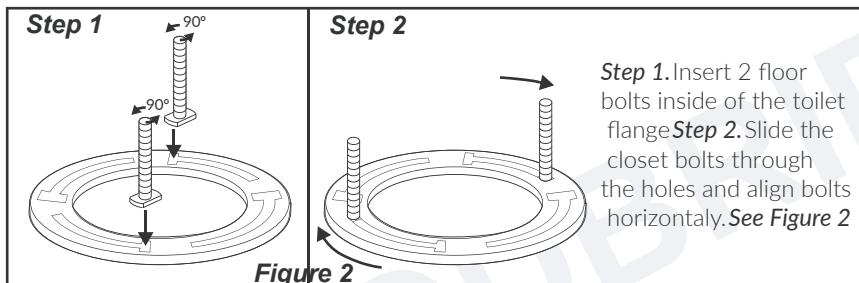

Figure 2
Step 2. Slide the closet bolts through the holes and align bolts horizontally. See Figure 2